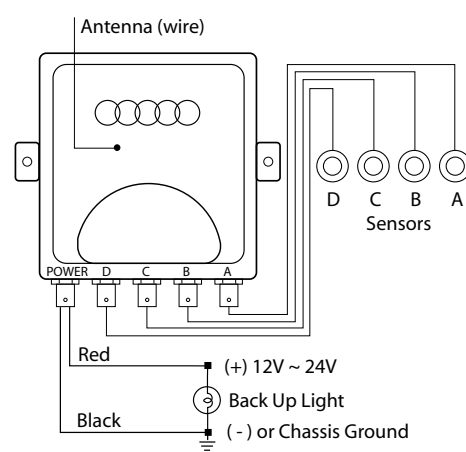

Fig.2 Main Control Box and Wiring
- d) Connect the red wire of the power cable to the +12V (or +24V) wire (Fig. 2).
- e) Connect the black wire of the power cable to the (-) negative or chassis ground (Fig. 2).